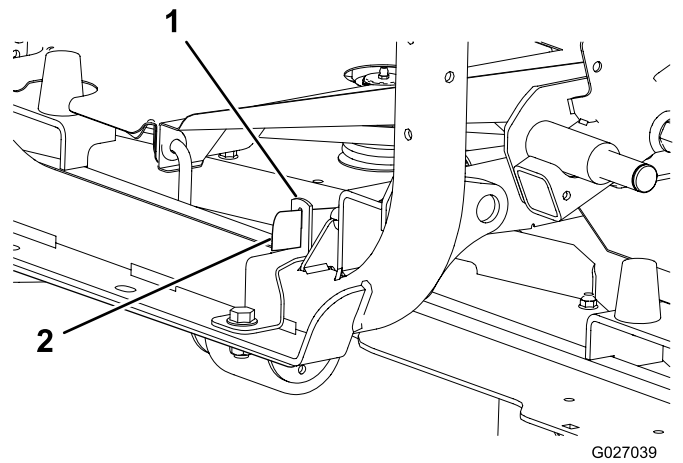
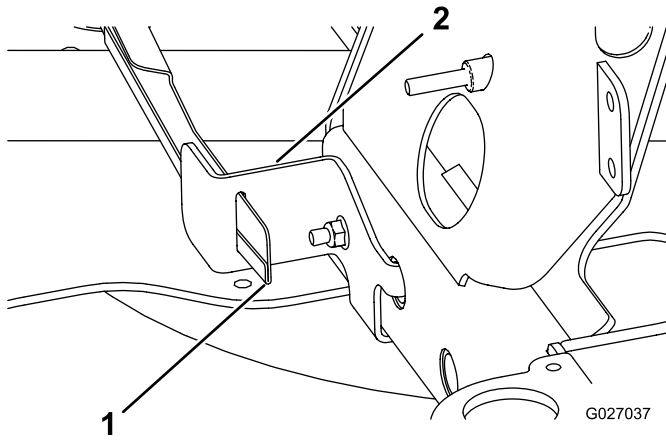

Figure 27
Figure 26
2. Install the driveshaft shield through the slot in the shield support installed in procedure 11 Mounting the Shield Support (page 9); refer to Figure 26 or Figure 27.